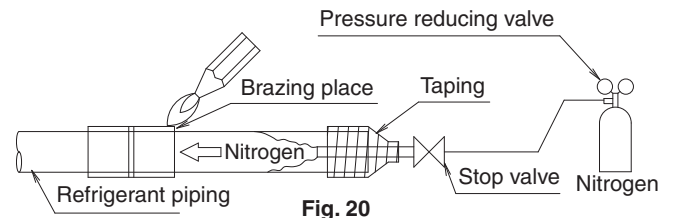

Fig. 20
- * Before brazing refrigerant piping, have nitrogen flow through the refrigerant piping and substitute air with nitrogen. Then, carry out brazing (NOTE 2). (Refer to Fig. 20) After all the brazing works are finished, carry out flare connection with the indoor unit.